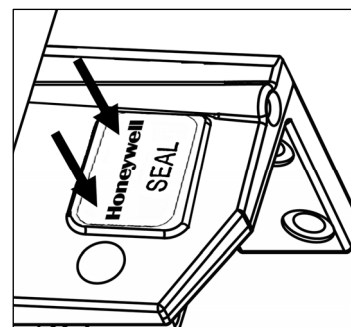

Figure 58.
3. With very light pressure, push down on the adhesive calibration security seal label to ensure a firm adhesion is created (see *Figure 58*).